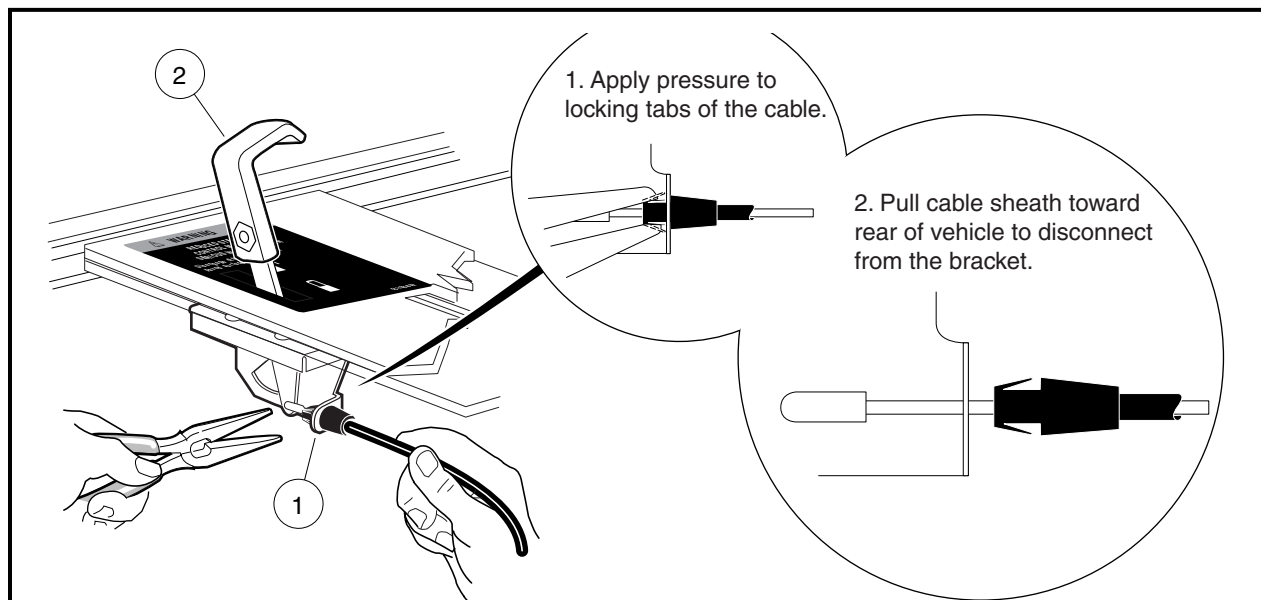

Figure 16-13 Differential Lock Cable Removal
- 5.3. Rotate the cable connector toward the driver side of the vehicle to disconnect the cable from the differential lock lever (1) (**Figure 16-13, Page 16-8**).